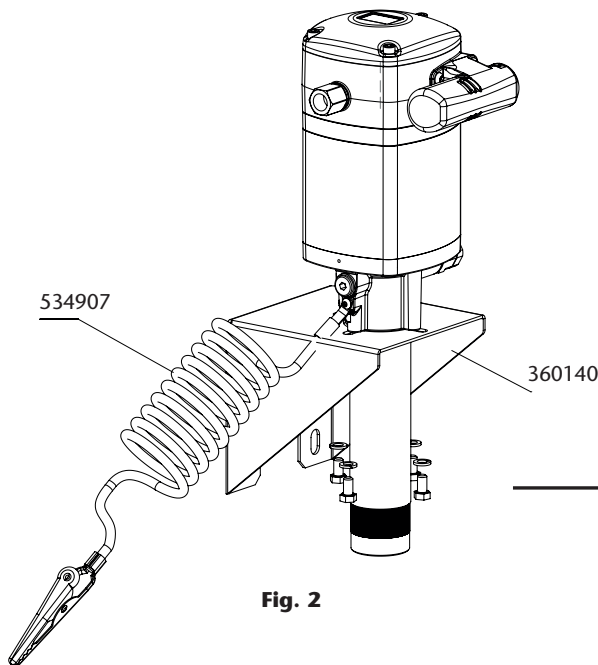

Fig. 2
- b.** Wall mounting with screws. Insert the pump through the wall bracket (360140) and fix it with 4xM8 screws (Fig. 2).